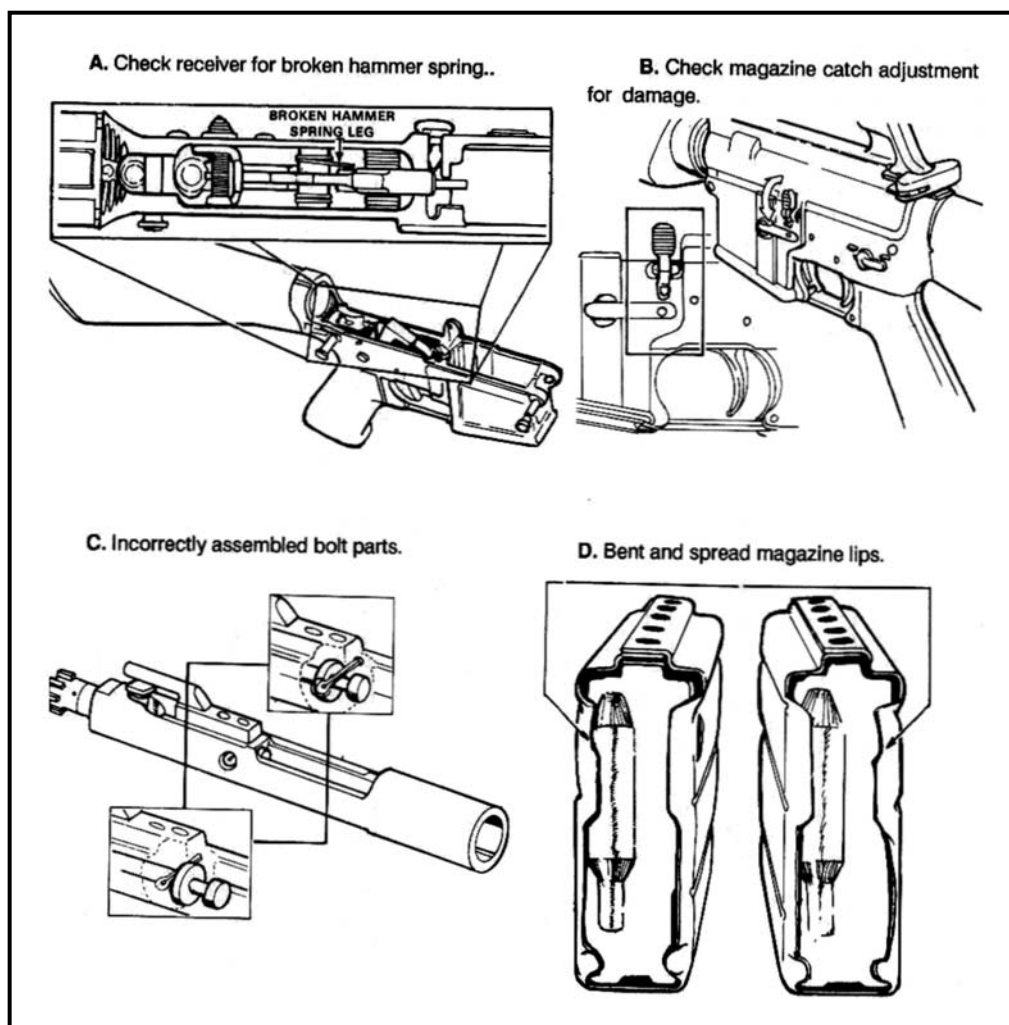

Figure 3-3. Other possible malfunctions.
(1) The bolt fails to remain in a rearward position after the last round in the magazine is fired. Check for a bad magazine or short recoil.
(2) The bolt fails to lock in the rearward position when the bolt catch has been engaged. Check bolt catch; turn in to unit armorer.
(3) The weapon fires two or more rounds when the trigger is pulled and the selection lever is in the SEMI position. This indicates a worn sear, cam, or disconnecter. Turn in to armorer to repair and replace trigger group parts as required.
(4) The trigger fails to pull or return after release with the selector set in a firing position. This indicates that the trigger pin (A, Figure 3-3, page 3-6) has backed out of the receiver or the hammer spring is broken. Turn in to armorer to replace or repair.
(5) The magazine fails to lock into the magazine well (B, Figure 3-3). Check the magazine and magazine catch for damage. Turn in to armorer to adjust the catch; replace as required.
(6) Any part of the bolt carrier group fails to function (C, Figure 3-3). Check for incorrect assembly of components. Correctly clean and assemble the bolt carrier group, or replace damaged parts.
(7) The ammunition fails to feed from the magazine (D, Figure 3-3). Check for damaged magazine. A damaged magazine could cause repeated feeding failures and should be turned in to the armorer or exchanged.